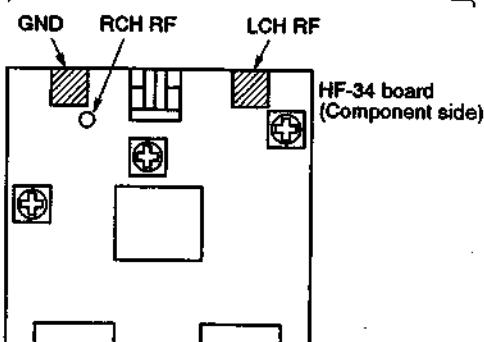

Fig. 7-2-15.
| Measurement Point | CH1: See Fig. 7-2-15 (HF-34 Board) CH2: Pin ③ of CN802 (RV-33 Board) |